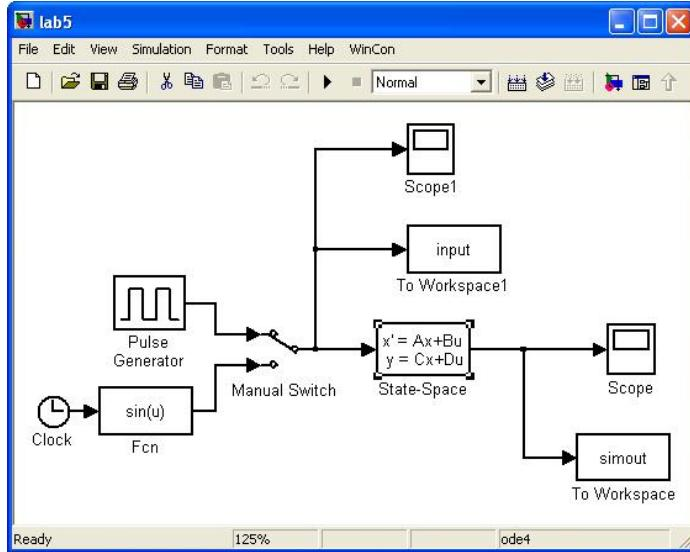

Figure 6.1: Simulink model for Lab 6
4. Prepare the Simulink model shown in Figure 6.1. You could use the model in Lab 5 if you saved it. They are the same.